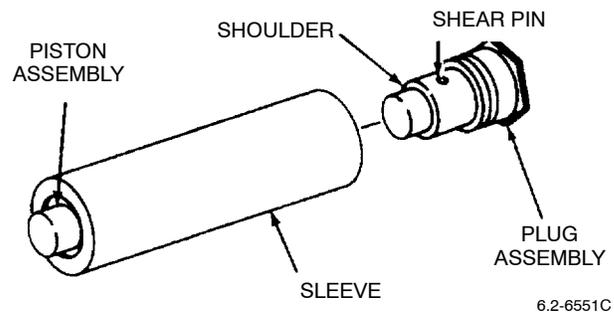

Figure 4. Trial Fit Plug
b. Trial fit plug into opposite end of sleeve. Plug must insert without force or restriction up to shoulder (Figure 4).